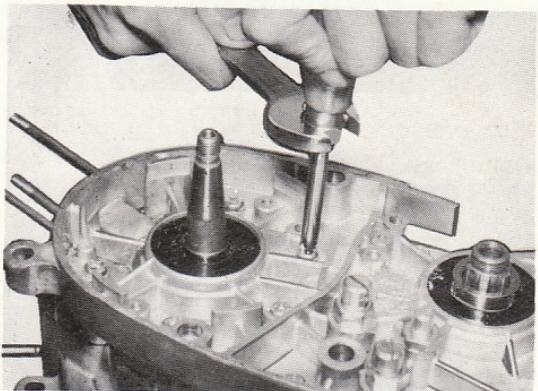

Fig. 3-54
- Remove the pan-head screws from the left crankcase. (Fig. 3-54)